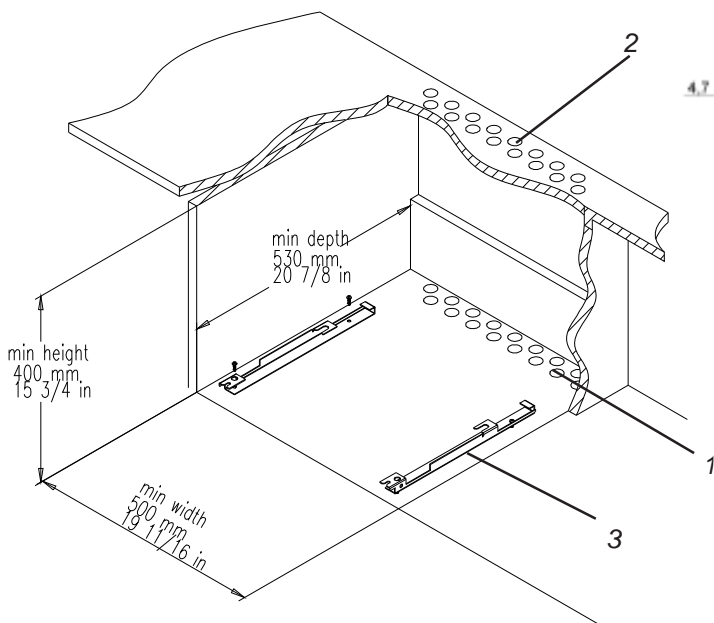

Figure 3: Measurements for the installation cut-out.
Fasten the oven with the two fixing strips (Figure 3 (3)), which have been screwed onto base (4 universal screws, 5x16 mm). Make sure the strips are securely fastened!